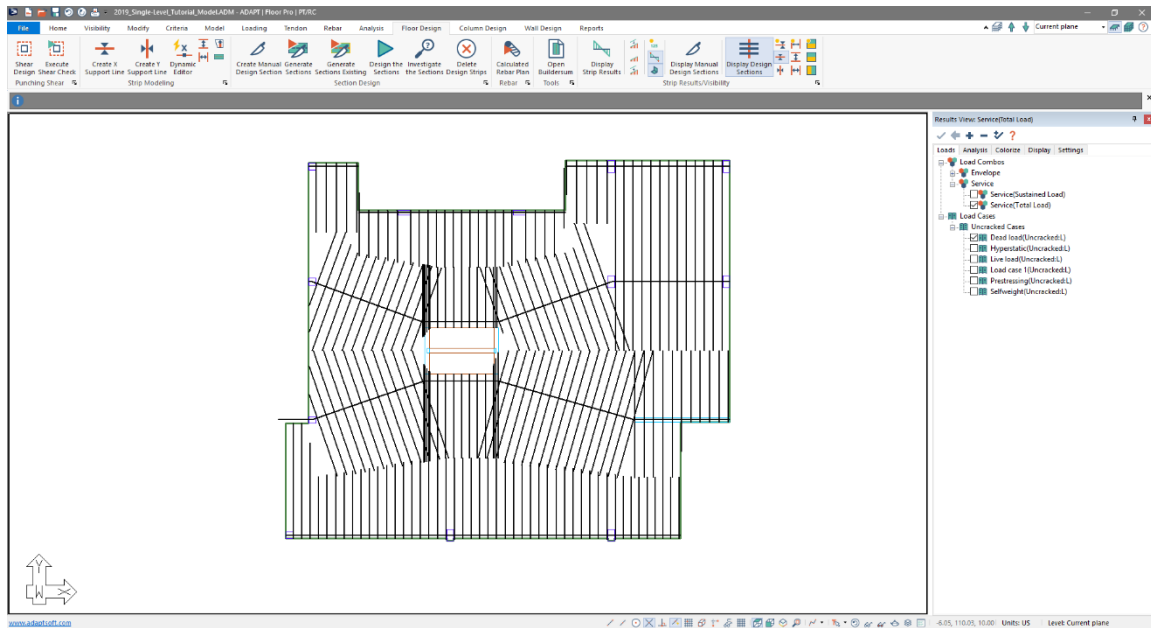

Figure 8-45
- Click *OK* to close the window. The user's screen should now be similar to **FIGURE 8-45**.